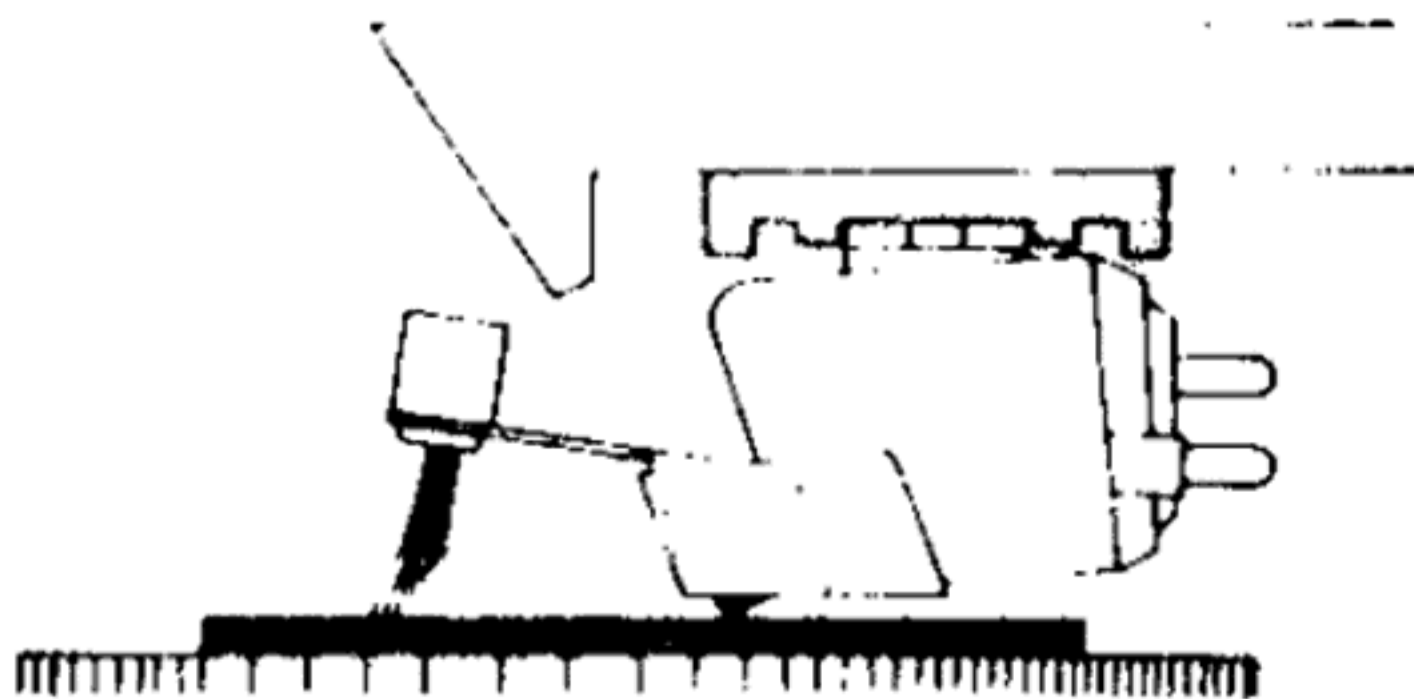

Figure 5
3. Stylus point is now in position and ready for operation (figure 5). REMEMBER: When reading tracking force scale, you are actually tracking at one gram LESS than indicated due to the one gram added to compensate for the brush weight.